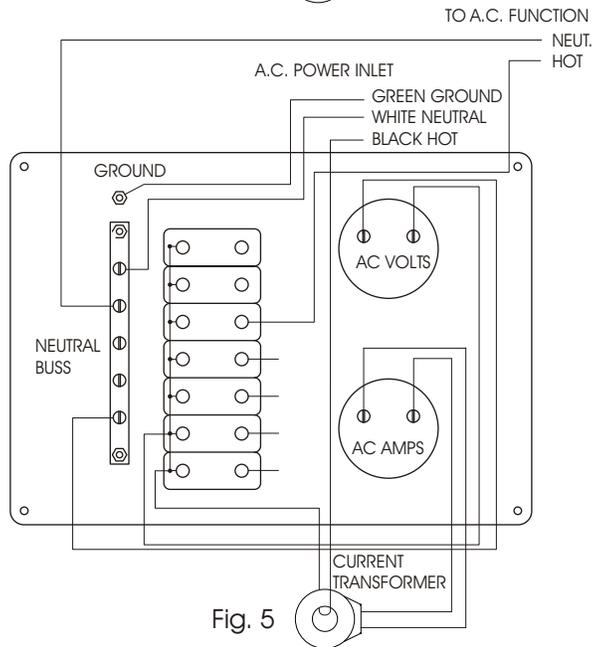

Fig. 5
Once the panel has been installed, connect the branch circuits as shown in Fig. 5. Then connect the panel to the A/C power supply. (We recommend Sea-Dog #423132 Main Breaker). Refer to Fig. 3 to determine proper wire size.
**A/C ammeters must be used in conjunction with a current transformer, part #421305 for the 50 amp and for the 100 amp part #421310. Mount the current transformer on the back of the bulkhead near the cutout for the panel. Using #14 gauge wire, connect the current transformer per Fig. 5.**